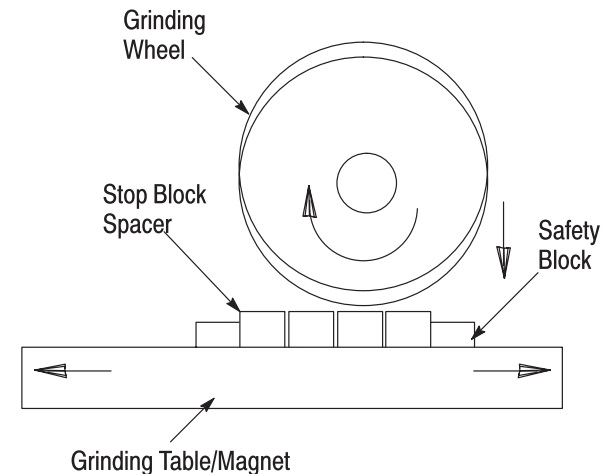

Figure 13
3. Place all four stop block spacers on a grinding table. If necessary use safety blocks to hold the spacers in place. See Figure 13.
4. Grind the stop block spacers. See Figure 13.